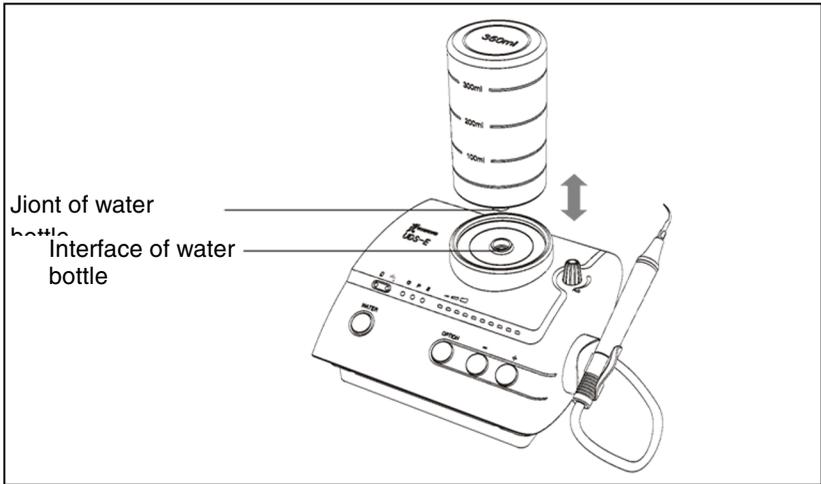

Fig. 5
Install the bottle reversely to the connector with adequate purified water (See Figure 5).
- 4 Place the bottle with water upside down, insert the joint into the interface vertically (See Figure 5).